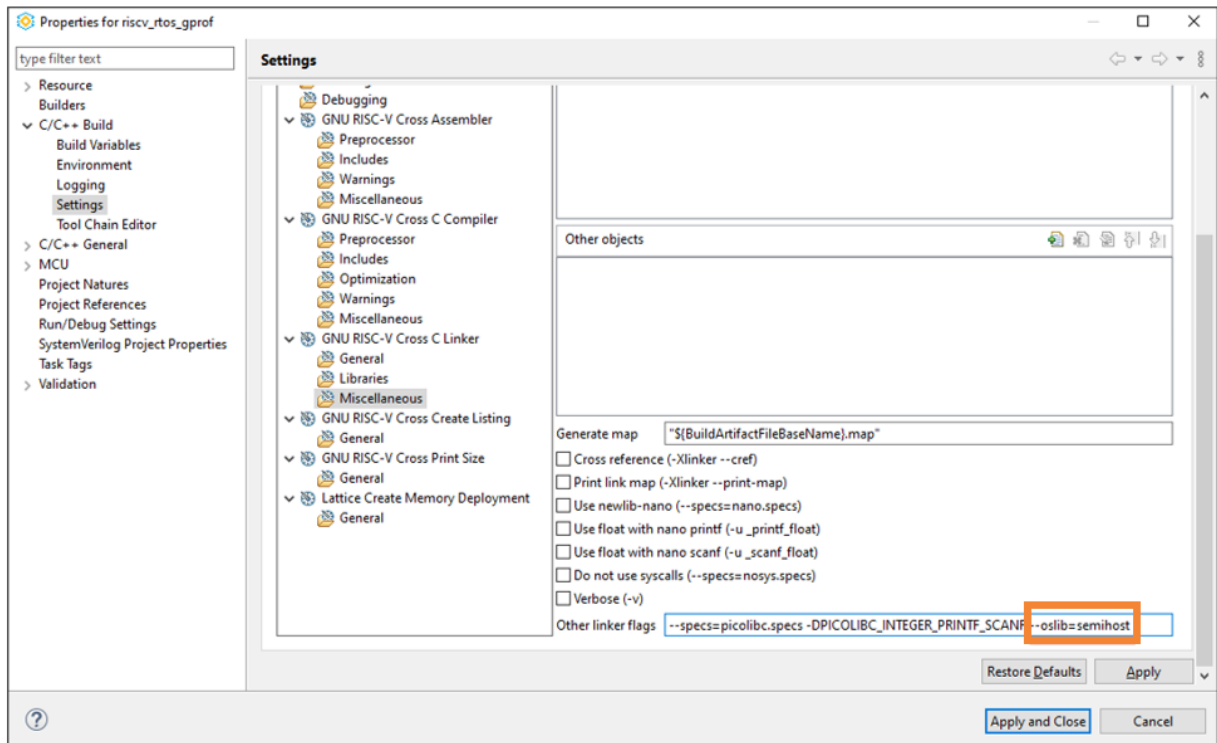

Figure 5.36. --oslib=semihost Linker Flag 2
6. Select **GNU RISC-V Cross C Linker > Miscellaneous**. Check link flags in the label, Other linker flags. Make sure the linker flag, `--oslib=semihost`, is supported (Figure 5.36).